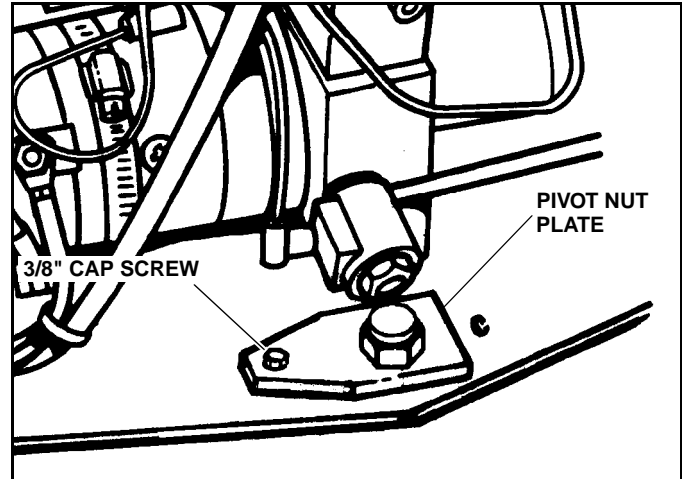

Figure 2-1
- remove the 3/8" Cap Screw and Lock Nut which holds the Lock Plate to the Pump Platform (See Figure 2-1)
3. Remove 3/8" Cap Screw securing Pivot Nut Plate to Motor Mounting Plate.(See Figure 2-1)
4. Remove Nut from 1" Pivot Bolt.(See Figure 2-1)